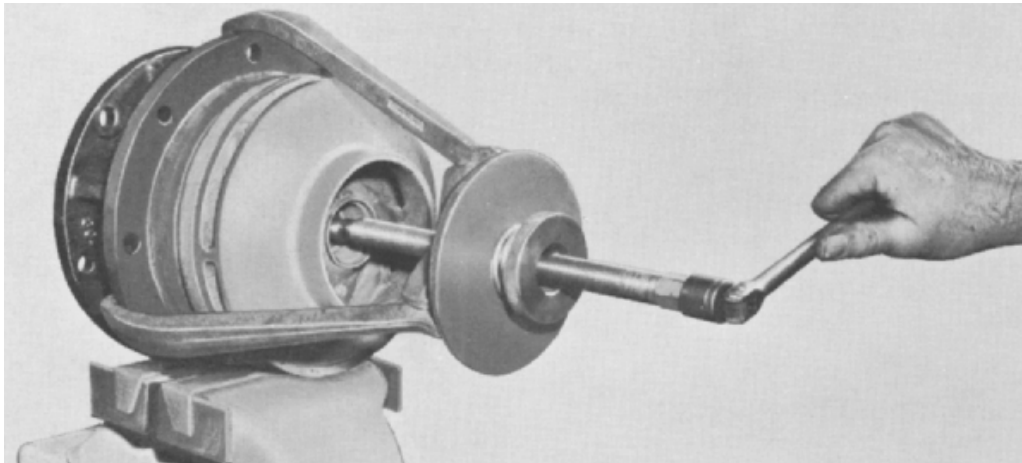

Fig. 10-11 - Impeller Removal
11. Place the extension tip of the impeller puller over shaft threads at impeller end of pump. 12. Apply impeller puller with legs placed behind support housing flange, Fig. 10-11.